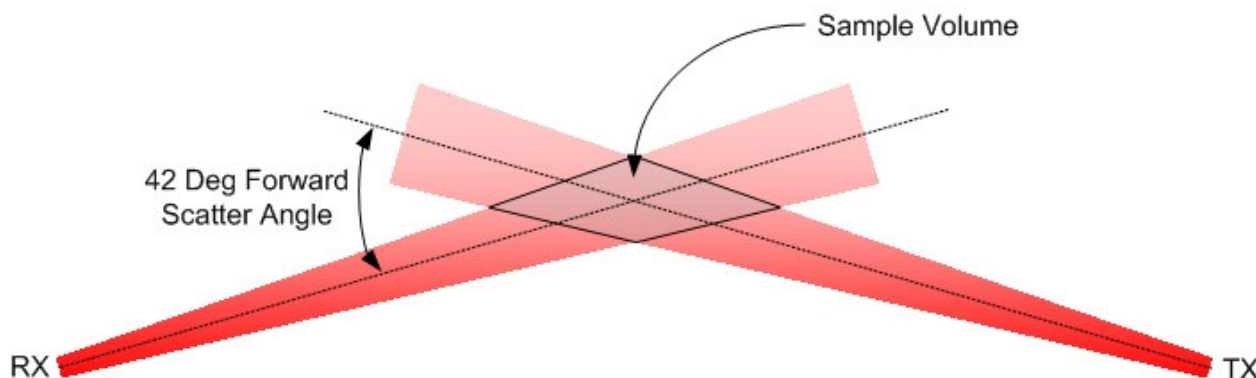

Figure 1.1-1 Forward Scatter Geometry
The Sentry™ uses the principle of forward scattering as shown in Figure 1.1-1. The optical system is designed such that the infrared light projected from the transmitter (TX) intersects the field of view of the receiver (RX) with a forward angle of 42° . The area of intersection is known as the sample volume. The 42° forward angle ensures performance over a wide range of particle sizes in the sample volume including smoke, dust, haze, fog, rain and snow.